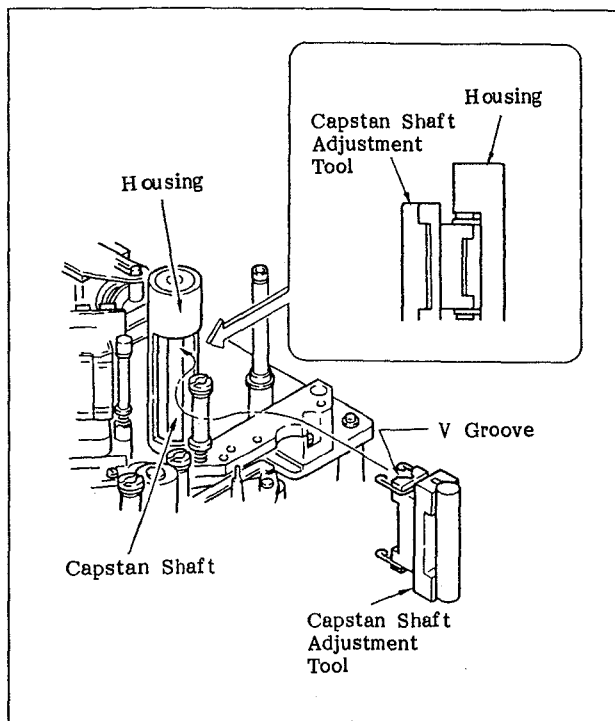

Fig. 6-80 Installing the Capstan Shaft Adjustment Tool
11. Install the capstan shaft adjustment tool by pushing it onto the capstan shaft and then lifting it up until it touches the housing. (Figure 6-80)